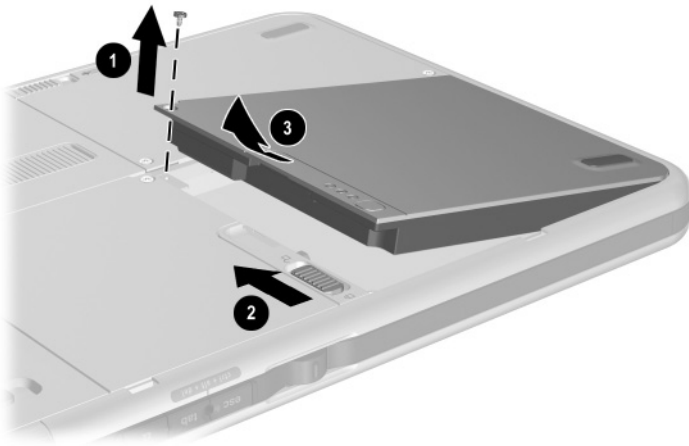

Figure 5-2. Removing the Battery Pack
- b. Remove the PM2.0 \times 4.0 screw ❶ that secures the battery pack to the tablet PC (Figure 5-2).
- c. Slide the battery release latch ❷ toward the back of the tablet to release the battery pack.
- d. Use the notch in the battery pack to lift the left side of the battery pack up and swing it to the right ❸.